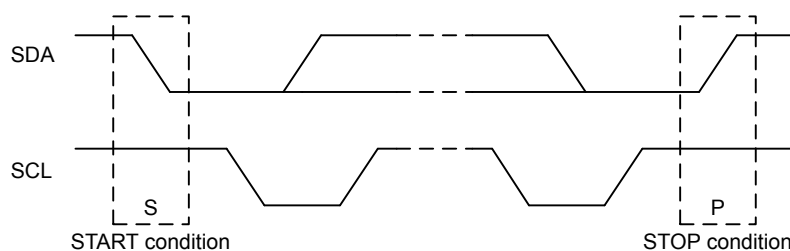

Figure 16.4. I²C START and STOP Conditions
START and STOP conditions are used to initiate and stop transactions on the I²C-bus. All transactions on the bus begin with a START condition (S) and end with a STOP condition (P). As shown in Figure 16.4 I²C START and STOP Conditions on page 468, a START condition is generated by pulling the SDA line low while SCL is high, and a STOP condition is generated by pulling the SDA line high while SCL is high.